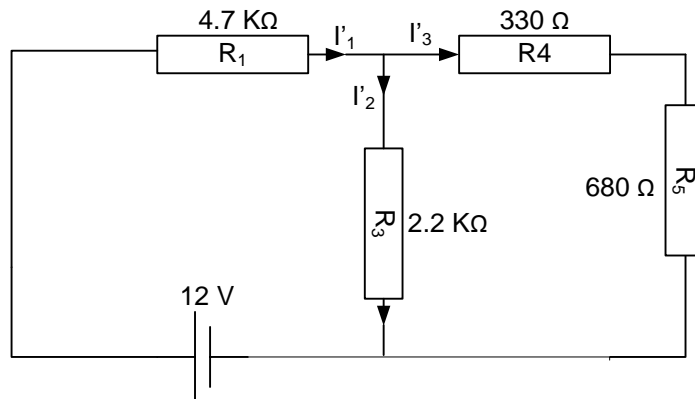

Figure 5.
3. Disconnect the 15V source, as shown in shown in Figure 5. Measure and tabulate the current I'₁, I'₂ and I'₃ as in Table 2.